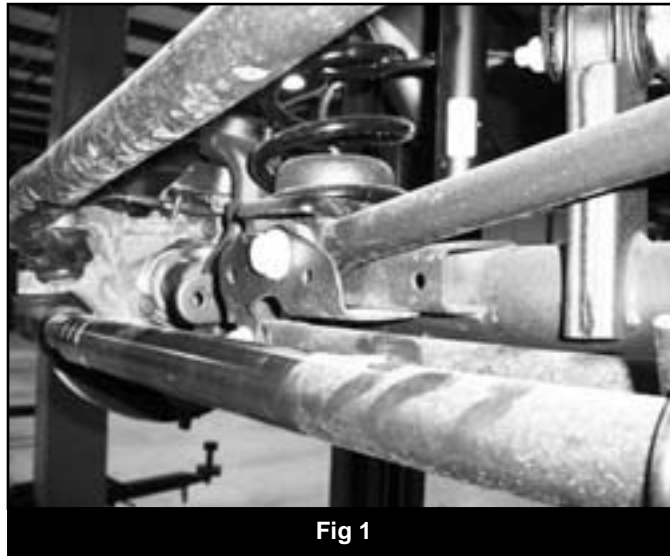

Fig 1
3. Disconnect the front track bar from the axle mount (Fig 1). Retain mounting hardware.